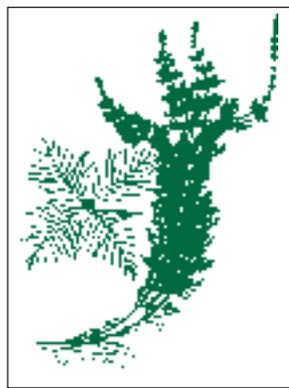

Figure 3
1. Lateral leaf segments (Figures 3 and 4) smooth, 3 to 5 leaves per whorl (Milfoil) 2
2. Lateral segments of leaves 5-11 on a side (Figure 3) and turions (parts resembling small green pine cones) produced late in the fall Northern water-milfoil